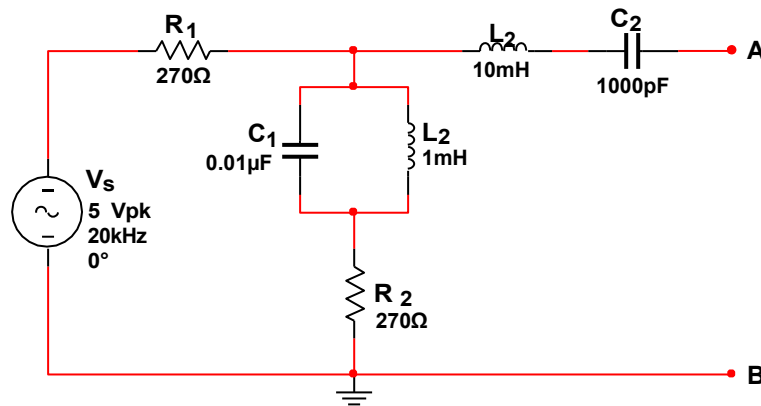

Figure P.2 – AC Analysis Circuit
1. **Derive** general **equations** to find the Thévenin Voltage,  $V_{TH}$ , Thévenin Impedance,  $Z_{TH}$ , and Short Circuit Current,  $I_{SC}$ , with respect to terminals A and B in **Figure P.2**.
4. **Draw** the **Thévenin Equivalent circuit** for **Figure P.2**.
- a. **Label** it as **Figure P.2a – Thévenin Equivalent of Figure P.2**